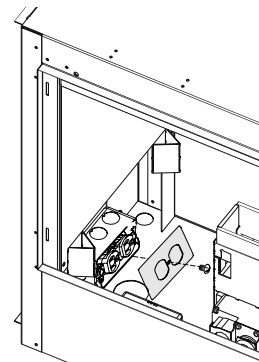

Figure 30
8. Install the Junction box cover. **See Figure 30.**